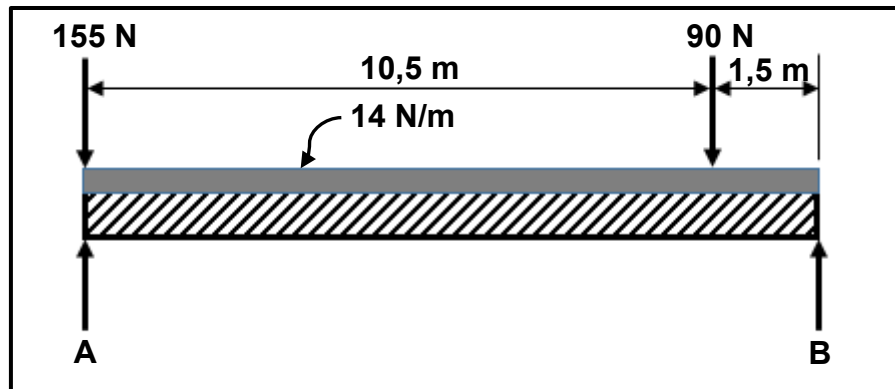

FIGURE 8.2
- 8.2 FIGURE 8.2 below shows a uniform beam that is supported by two vertical supports, **A** and **B**. TWO vertical point loads and ONE uniformly distributed load (UDL) are exerted onto the beam.